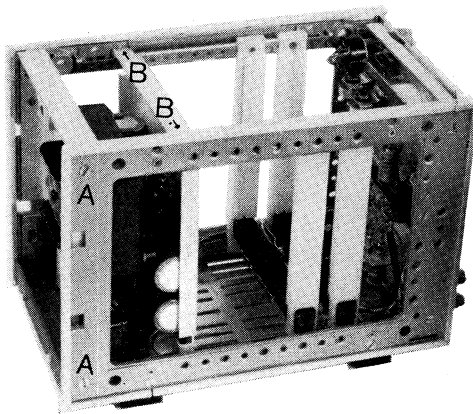

Fig. 10. Removing the rear panel
- Remove two screws "A" on each side of the instrument (Fig. 10).
- Remove two screws "B" (Fig. 10).